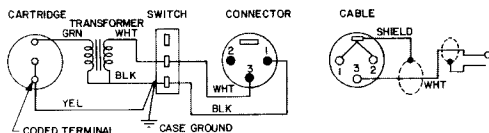

FIGURE 2
To change the phase of a microphone, the microphone cartridge leads must be interchanged (see Figure 2). This should be performed by your dealer, the Shure Factory Service Department, or other qualified service personnel.
**Phasing:** Positive pressure on diaphragm produces positive voltage on Pin 1 (see Figure 2 and Page 4).